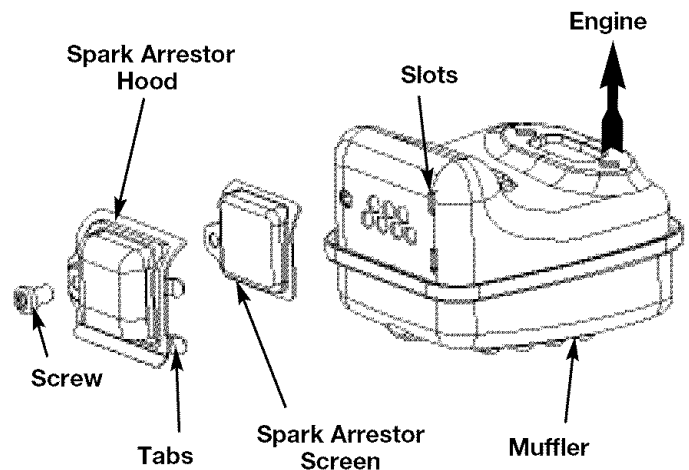

Fig. 21
2. Locate the muffler, but do not remove it. Find the screw on the bottom of the muffler (Fig. 21). Remove the screw using either a torx #20 or flat blade screwdriver.